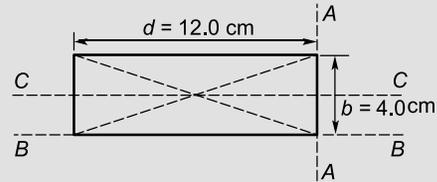

Figure 8.11
**Problem 6.** Determine the second moment of area and the radius of gyration about axes *AA*, *BB* and *CC* for the rectangle shown in Figure 8.11.